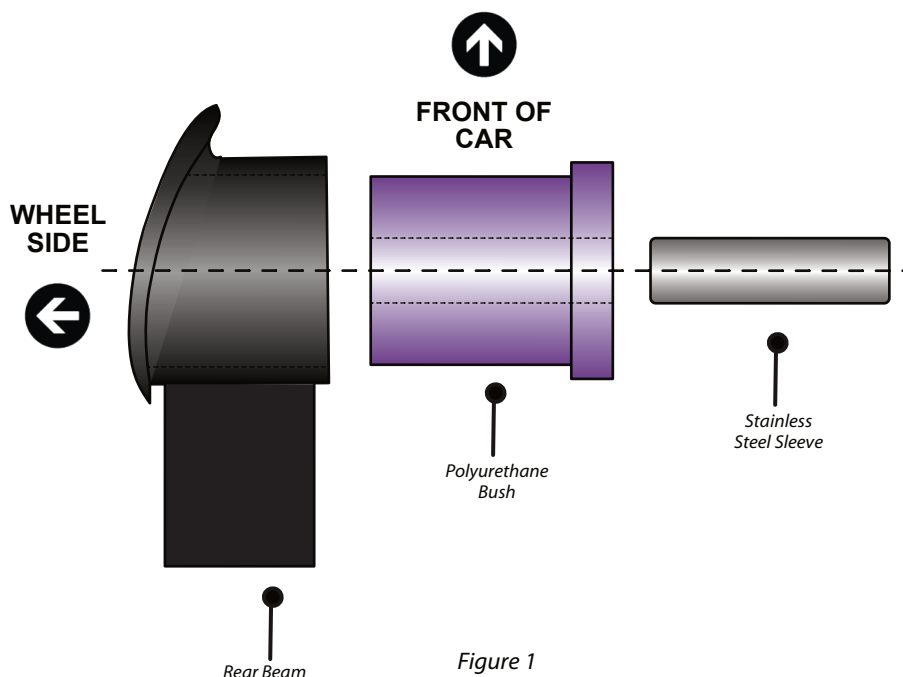

Figure 1
3. Push the polyurethane bush into the rear beam from the inside with the large flange of the bush fitting up against the straight face of the tube with the other end of the bush protruding the diagonal rolled face as shown in Fig 1.